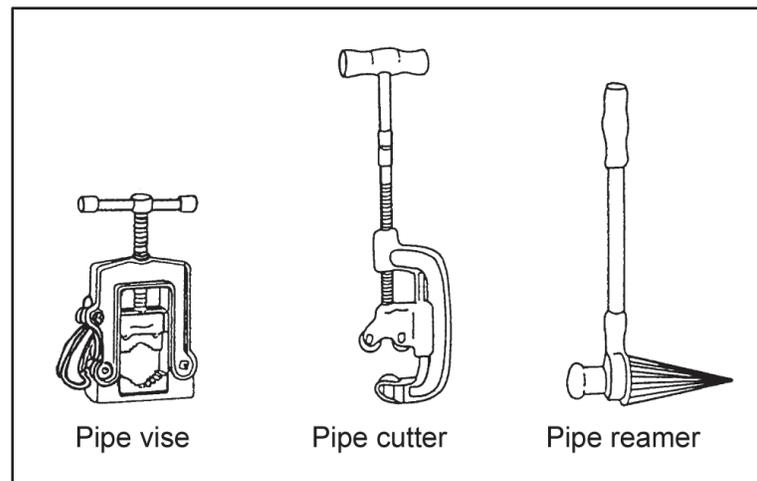
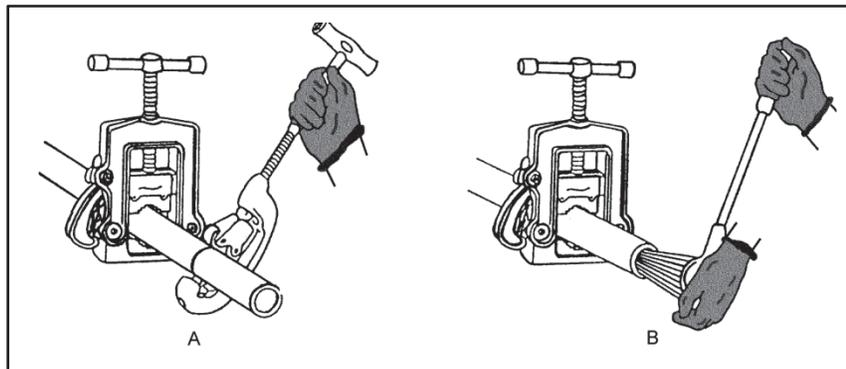

Figure 6-26. Steel-pipe tools
Figure 6-27. Cutting and reaming steel pipe
6-57. Steel pipe is cut and reamed using a vise, pipe cutter, and reamer (figure 6-26). To avoid pipe waste, use figure 6-27, page 6-22, and the following steps:
- Step 4.** Place the cutter around the pipe with the cutting wheel exactly on the mark. The rollers will ensure a straight cut (figure 6-27, A). If using a three-wheel cutter, place the cutting wheel of the movable jaw on the mark; ensure that all three wheels are at right angles to the centerline of the pipe.
- Step 8.** Push the reamer into the pipe. Turn the reamer clockwise in short, even strokes, while keeping steady pressure against the pipe (see figure 6-27, B) until the inside burrs are removed.